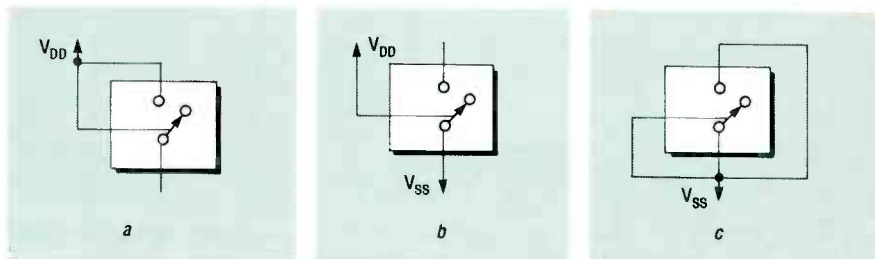

FIG. 9—UNUSED SECTIONS OF THE 4066B must be disabled using any one of connections a through c.
2. Each unused switch must be disabled using one of the techniques shown in Fig. 9.